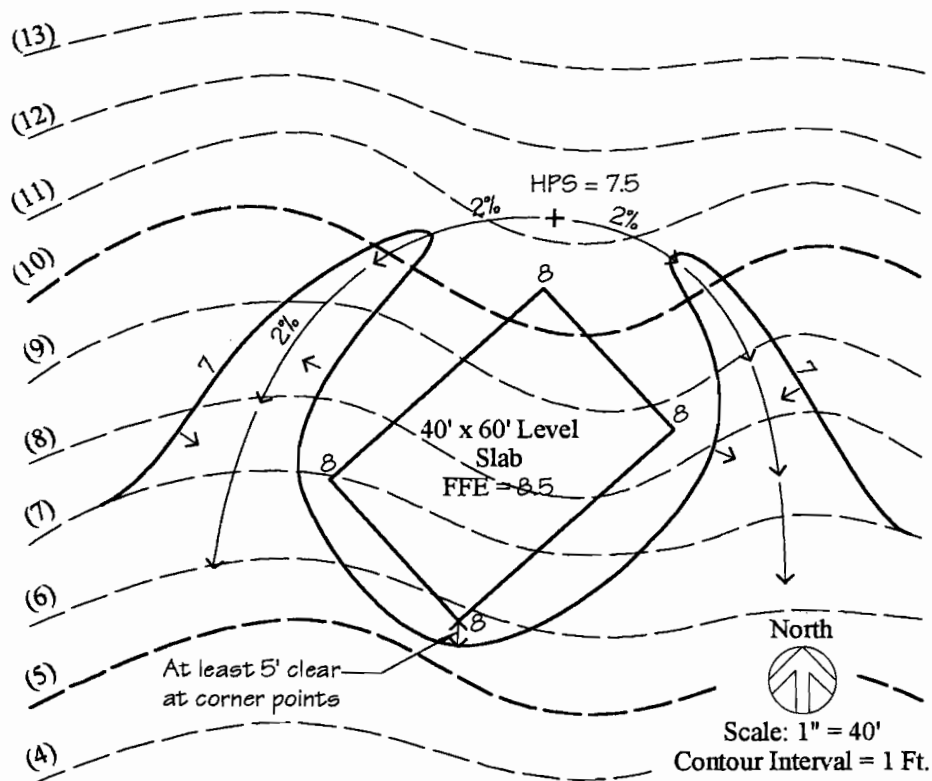

Figure 4-31. Drawing Contour 7
Step 4. Draw contour 7 as shown in Figure 4-31. This is a good point at which to review the concept behind the horseshoe swale for a level slab. Trace the path that the contour follows. Notice that it deflects down and around the *downhill end* of the plane surface. Now, study the flow arrows and consider the runoff patterns that are created by contour 7. One important characteristic of the horseshoe swale for a level slab is that the swale not only intercepts runoff coming down the slope toward the site element, but also runoff generated by the site element itself and the area immediately surrounding it. One additional point to be aware of is that, as shown in this example, the exterior elevations at the corner points of the plane surface are exactly at eleva-
tion 8, meaning that contour 8, although not graphically shown, goes around the slab, closing on itself. Because of this unseen contour, contour 7 must be kept at least 5 feet away from the slab corners to fulfill the required 5:1 slope ratio requirement. Of course, depending on the finish floor elevation of the slab, this may be, or may not be, the case in any given solution. Nonetheless, in a level plane surface solution, the next contour lower in elevation than the exterior finish grades of the slab or pad will always trace the pattern shown in Figure 4-31.